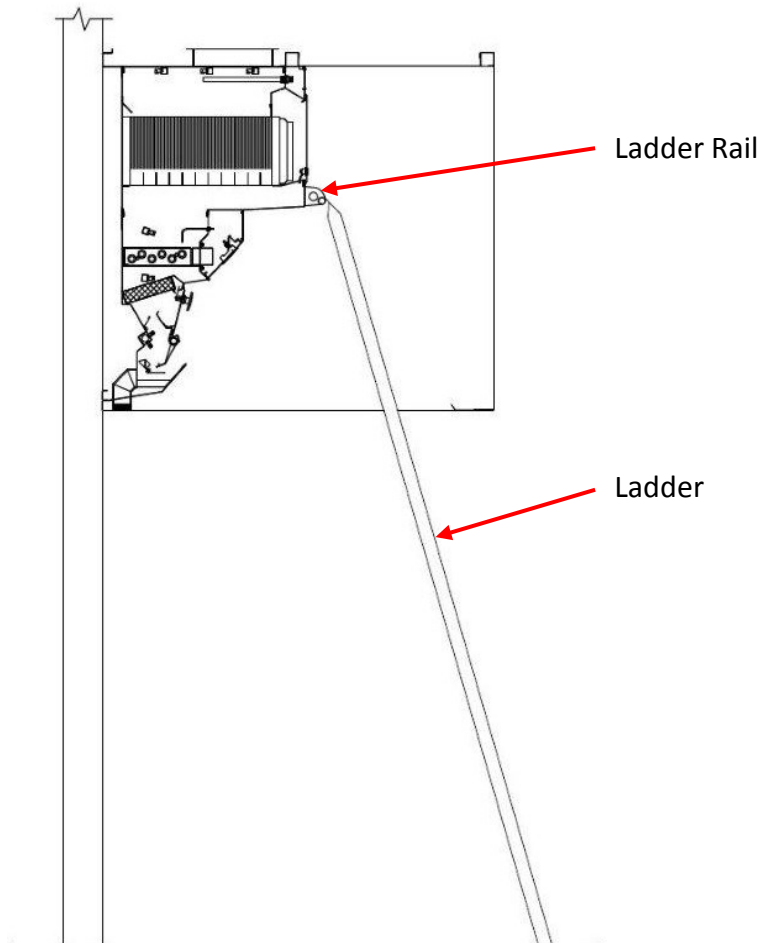

Figure 4-4-1
5. Position the ladder at one end of the Ventilator and hook onto the Ladder Rail with the hooks at the top of the ladder (Refer to Figure 4-4-1). **Extreme Caution: Double check to make sure the ladder is properly hooked to the Ladder Rail.**